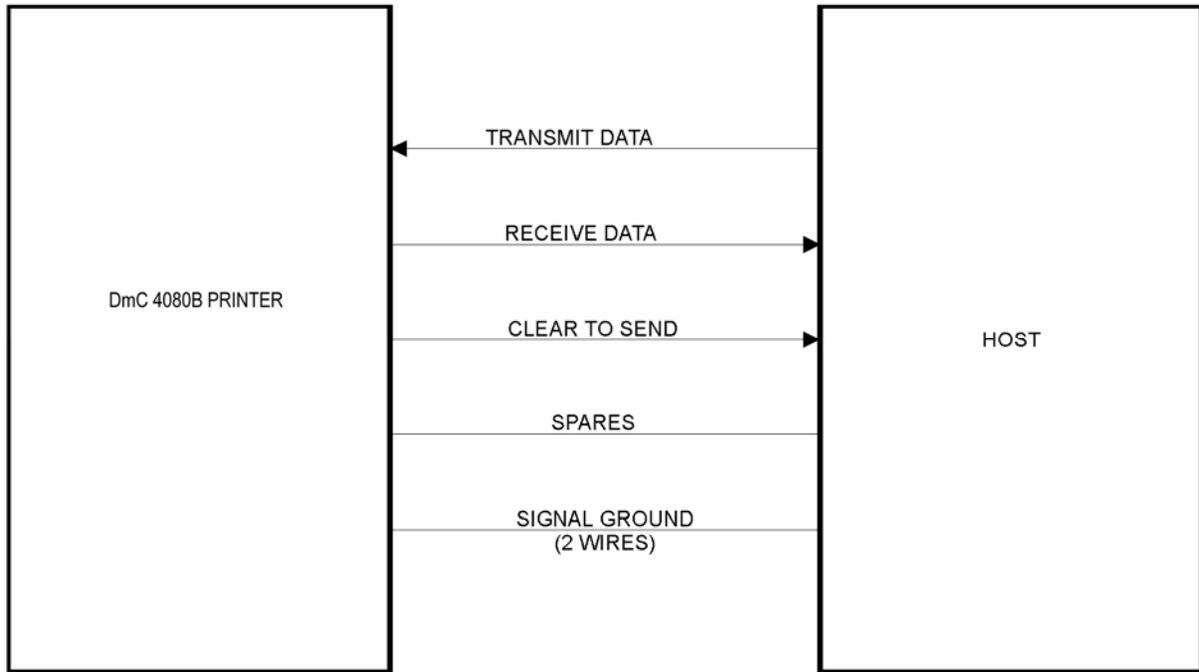

Figure 7-2. RS-232C Interface Diagram
**7.3.1.1. Signal Type.** Data or control signals, unbalanced, provide serial data transfer between printer and host. Each interface signal is transferred over a single-ended one conductor connection to the host (Figure 7-2).